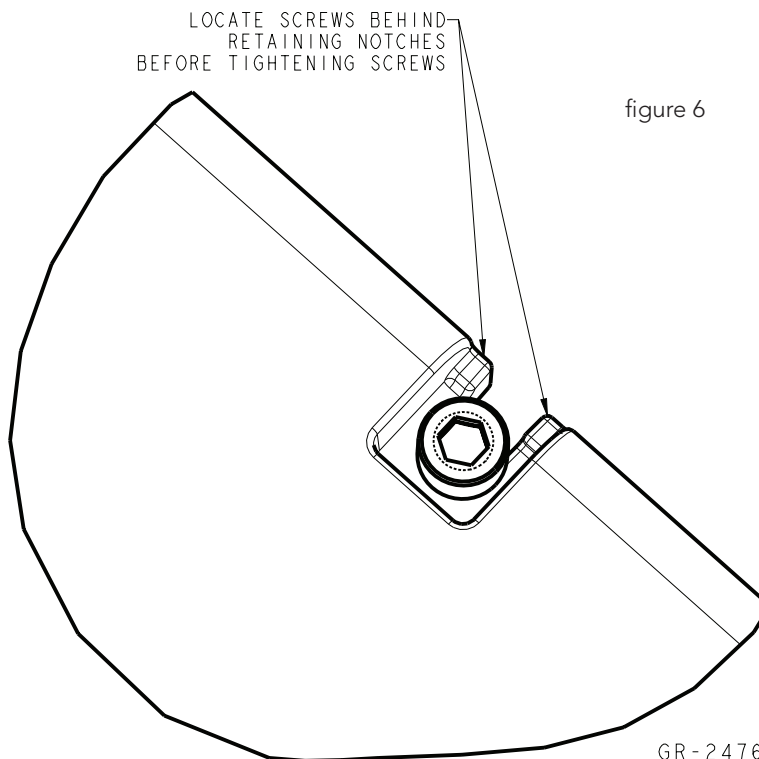

figure 6
8. Hand tighten the (2) hex socket set screws on the top of the housing with a 3/16" allen wrench evenly (10-15 in. lbs maximum). See figure 6.